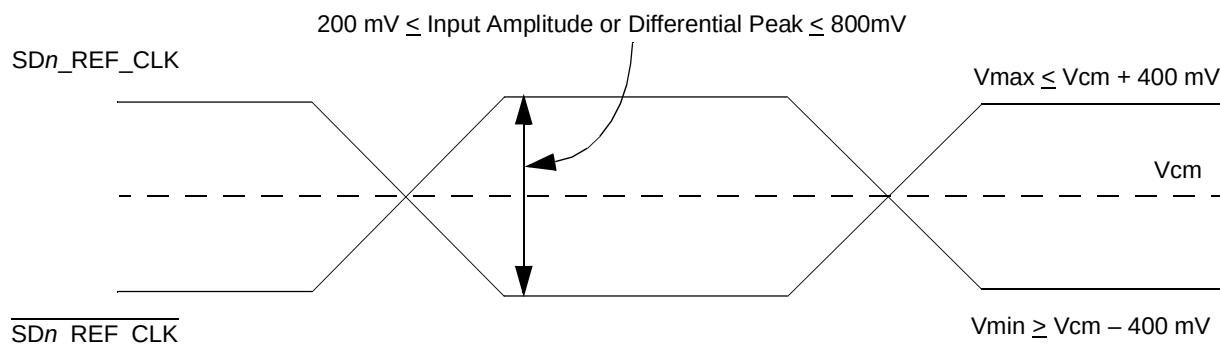

Figure 48. Differential Reference Clock Input DC Requirements (External AC-Coupled)
- For **external AC-coupled** connection, there is no common mode voltage requirement for the clock driver. Since the external AC-coupling capacitor blocks the DC level, the clock driver and the SerDes reference clock receiver operate in different command mode voltages. The SerDes reference clock receiver in this connection scheme has its common mode voltage set to SGND_SRDS. Each signal wire of the differential inputs is allowed to swing below and above the command mode voltage (SGND_SRDS). Figure 48 shows the SerDes reference clock input requirement for AC-coupled connection scheme.